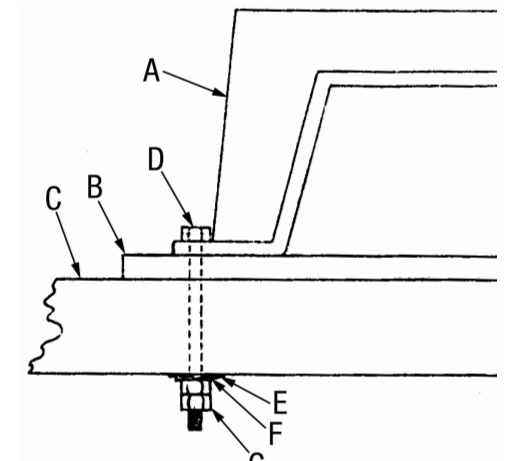

FIGURE 7
- 1) If you would prefer to mount your Scroll Saw base (A) Fig.7 to a workbench (C), a solid bench is preferable over a plywood bench where noise and vibration will be more noticeable.
- 2) The hardware to mount this saw to a workbench is NOT SUPPLIED with the Scroll Saw. However, we recommend the hardware used be no smaller than the following: 4 x hex. bolts -1/4 - 20 (D), 4 x washers 9/32" (E), 4 x spring washers 9/32" (F), 8 x hex. nuts 1/4 - 20 (G).
- 3) A soft foam pad (B) Fig.7 placed between your Scroll Saw and your workbench is not supplied but we recommend the use of such a pad to reduce noise and vibration.